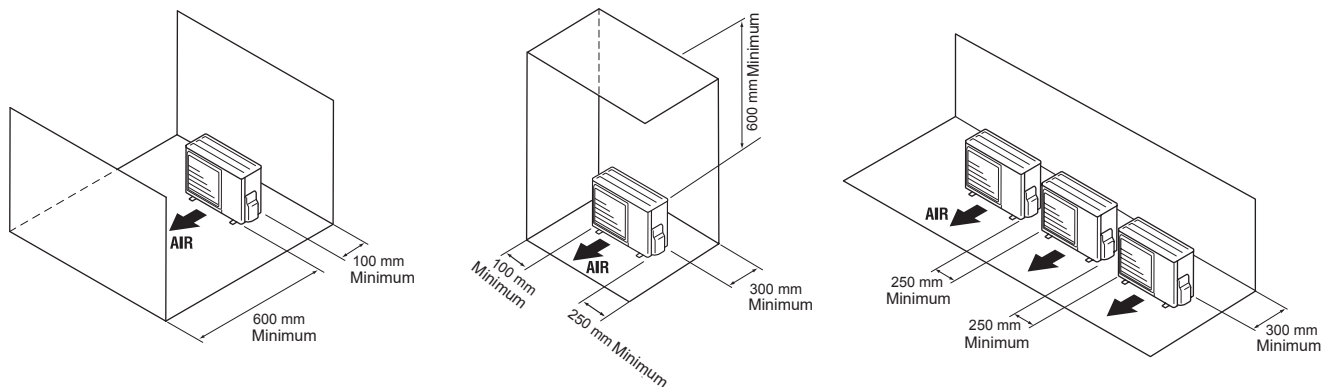

fig. 13 - Minimum installation clearances around the outdoor unit
- The unit must be easily accessible for future installation and maintenance work (fig. 13).
- Nothing should obstruct the air circulation through the evaporator and out from the fan (fig. 13).